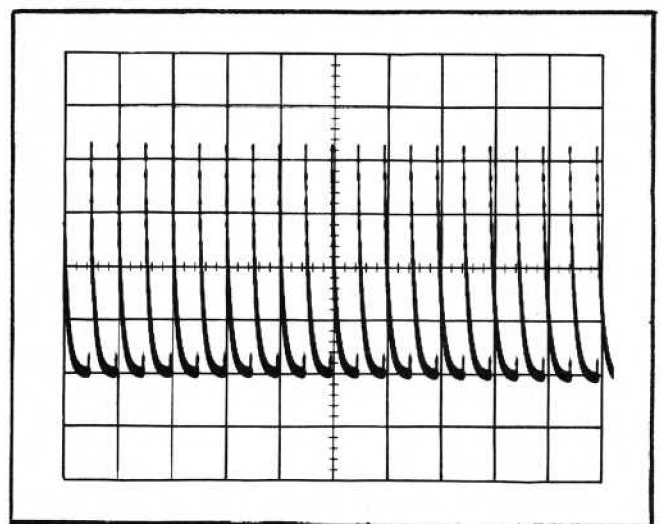

Fig. 5-7. CRT display showing correct .2 μ s timing.
- c. CHECK—CRT display for two markers each division over the center eight divisions. Check that sweep timing is within 0.16 division (2%) over center eight divisions. See Fig. 5-7.